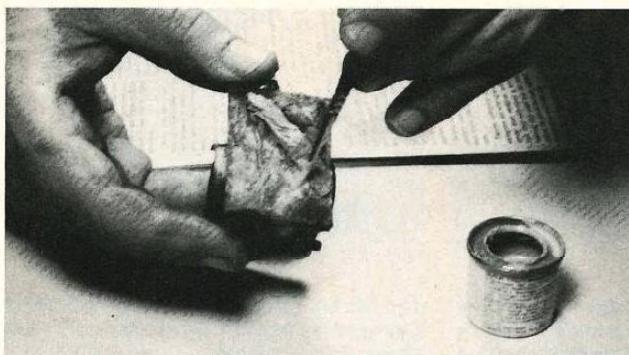

**Fig. 25.** Mud! Even sure-footed jeeps can get stuck. Note the fresh deposits of darker wet mud on the lower parts of this jeep, and the offset wire cutter bar.
**Researching — of all things — wet mud.** Next I reached for the Tamiya jeep with the top and the trailer, the one I planned to do as a mud-covered Willie-and-Joe special from the Italian front, Fig. 25. I checked my reference photos, then went looking for as many unwashed cars and trucks as I could find. Vehicles used off paved roads, such as pickup trucks and 4 x 4s, are especially worth studying. Try to find at least one vehicle with fresh mud deposits so you can see the differences in color between wet and dry mud. Wet mud is always much darker — by several shades, in fact — than dry dirt or dust, and even yellowish-tan soil turns almost chocolate brown when wet.